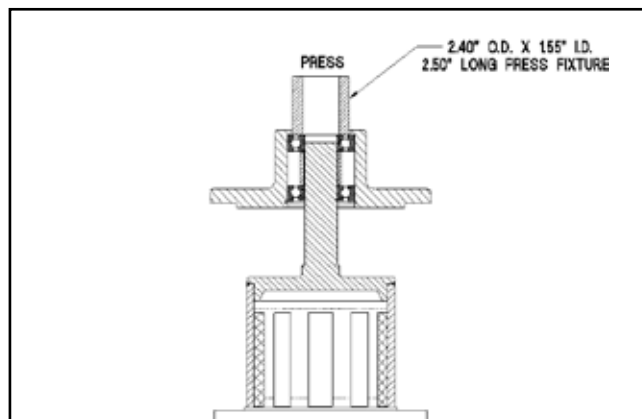

FIGURE 25
1. Press one (1) bearing into the housing bore. The pressing tool (2.40" OD x 1.55" ID x 3" long) must seat on both the inner and the outer bearing races. Position the bearing spacer in the bore and insert the second bearing. Press down, insuring the bearing spacer is centered between the inner bearing races, until the bearings bottom out. Install the internal retaining ring into the bearing housing.
2. Set the outer magnet assembly upright in press. Slide the bearing housing over the shaft of the outer magnet assembly until it meets resistance as shown in **Figure 25**. Place the pressing tool on the end of the bearing and press the housing down until the bearing bottoms out on the shaft shoulder. Install the external retaining ring on the shaft of outer magnet assembly.